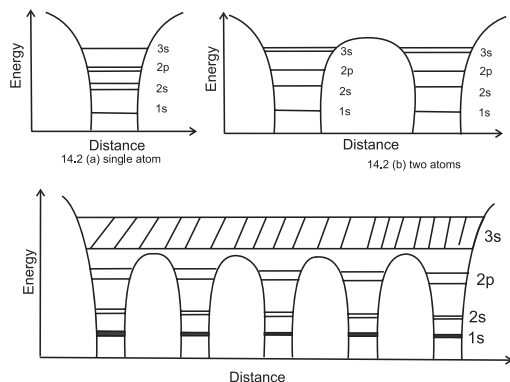

Fig. 14.2: Potential energy diagram, energy levels and bands.
**Any energy level can accommodate only two electrons (one with spin up state and the other with spin down state).** According to this principle, there can be two states per energy level. Figure 14.2 (a) shows the allowed energy
Consider two sodium atoms close enough so that outer 3s electrons are equally likely to be in any atom. The 3s electrons from both the sodium atoms need to be accommodated in the same level. This is made possible by splitting the 3s level into two sub-levels so that the Pauli's exclusion principle is not violated. Figure 14.2 (b) shows the splitting of the 3s level into two sub levels. When solid sodium is formed, the atoms come close to each other (distance between them  $\sim 2 - 3\text{\AA}$ ). Therefore, the electrons from different atoms interact with each other and also with the neighbouring atomic cores. The interaction between the outer most electrons is more due to overlap while the inner core electrons remain mostly unaffected. Each of these energy levels is split into a large number of sub levels, of the order of Avogadro's number. This is because the number of atoms in solid sodium is of the order of this number. The separation between the sublevels is so small that the energy levels appear almost continuous. This continuum of energy levels is called an energy band. The bands are called 1s band, 2s band, 2p band and so on. Figure 14.2 c shows these bands in sodium metal. Broadening of valence and higher bands is more since interaction of these electrons stronger.